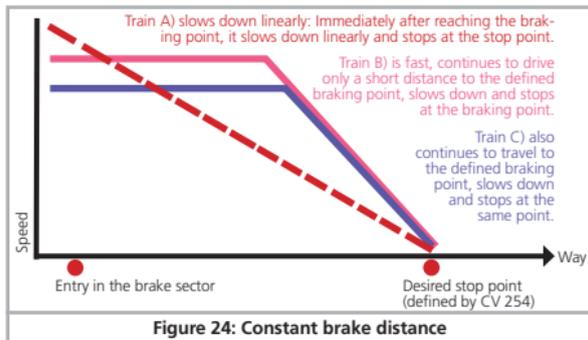

Figure 24: Constant brake distance
Have a look at the speed curve in Fig. 24. The last entry (CV 94) is 255. This represents full speed. If you wish to reduce the maximum speed you only have to reduce the value of CV 5. The decoder computes (squeezes) the speed curve in such a way that the shape of the speed curve remains despite the lower maximum speed.
**CV253=0:** The loco starts immediately to stop linearly after receiving the braking command. The brake effort is determined by the decoder so that, independent from the starting speed, the loco will stop after reaching the way defined in CV254. The dashed line in Figure 24 shows the relation.
**CV253>0:** Is the value in CV253 higher than 0, the locomotive continues to drive ahead for some time when entering the braking section to finally brake within the braking time indicated in CV253. The effort of the braking effect is now constant as set in CV253. The decoder changes the brake timing accordingly so that the locomotive stops at the correct position in the end. Figure 24 shows this quite clearly.